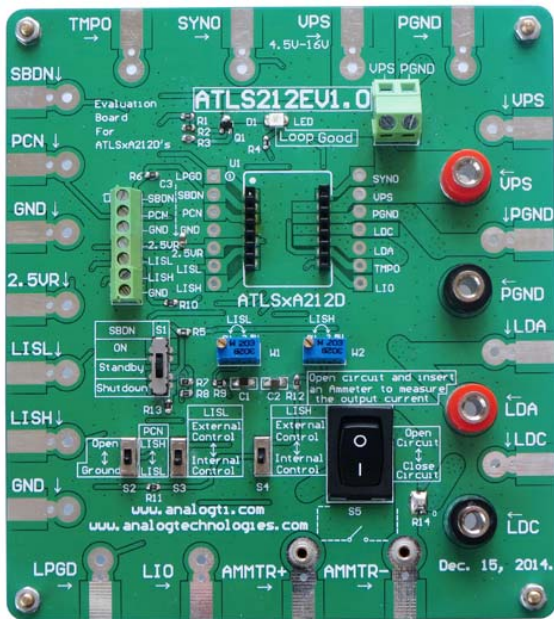
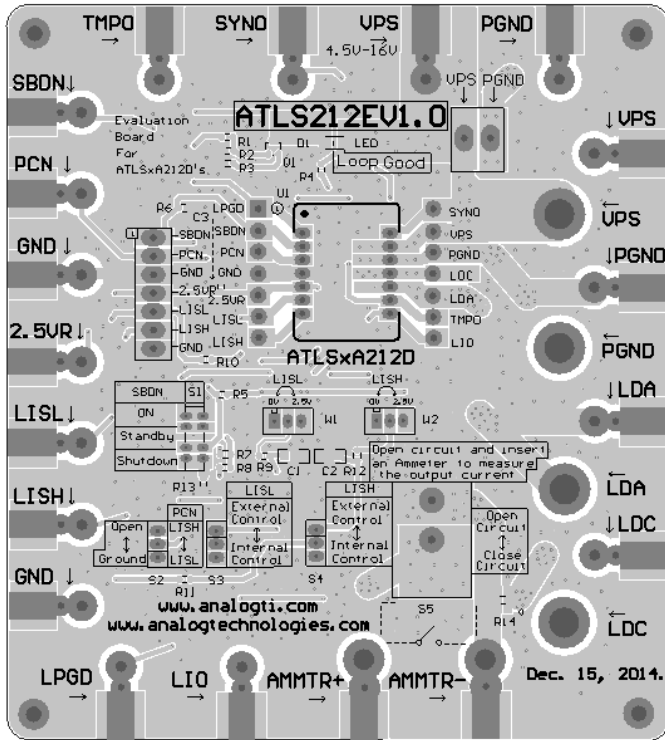
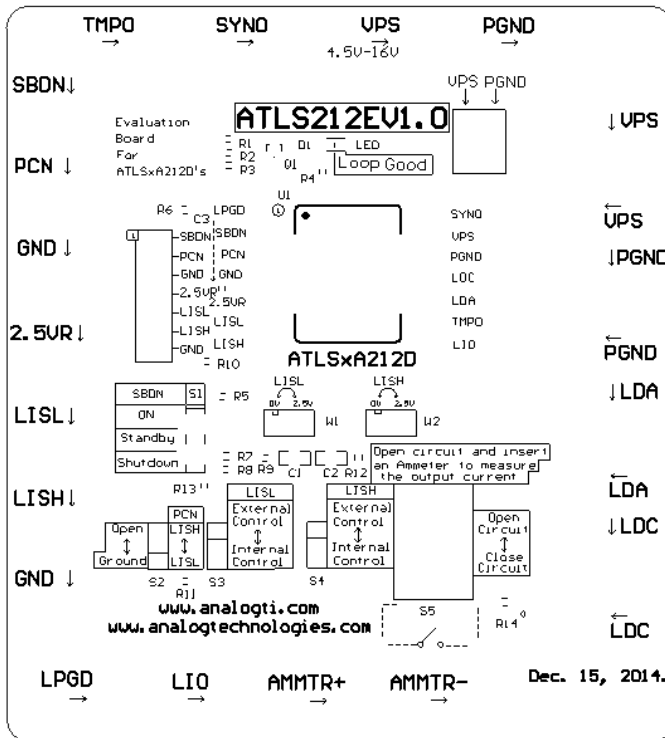

Figure 1. Physical Photo of ATLS212EV1.0
Figure 2. Top Silkscreen Layer with Other Top Layers
Figure 3. Top Silkscreen
This evaluation board is shown in Figure 1. On the 4 edges of the board, it features solder pads for all the interface ports provided by the laser driver. The solder pads can be used by clips or soldered with wires for connecting to external circuits. The power supply input is connected on the upper edge of the board. The incoming wires can be soldered on the pads, or clipped by alligator clips, or use the terminal block and tight the wires by the screws. In the upper middle of the board, there is an LED. When the controller works properly, it will be lit up. On the left side of the controller, there is a terminal block. It can be used for connecting wires going into the ports of the laser driver. On the lower side of the laser driver, there are 2 POTs (Potentiometers) for setting the lower and upper values of the set-point current.
When the laser driver uses these POTs for setting the current values, push down the 2 switches below the POTs, see Figure 1 and Figure 2; when using external signals to modulate the laser driver output current, leave the 2 switch knobs onto the upper position, as marked on the board. The lower left corner switch is for selection which of the control ports is used for setting the laser driver current: LISL or LISH. The output current can be measured by a current meter, which can be inserted between the 2 multi-meter lead sockets: AMMTR+ and AMMTR-, which is located on the lower edge of the board. When an Ammeter is inserted into the circuit, turn switch S5 onto the upper position, the open circuit the meter leads, so that the current will go through the meter, thus the current will be measured. When the Ammeter is absent, turn the switch S5 down, to short circuit the current meter terminals so that the current will go through the switch to close the circuit.
The silkscreen layer of the evaluation board is shown in Figure 2 with other top layers, including top silkscreen, top copper, top solder mask, and multilayer (vias). Figure 3 shows the image of top silkscreen layer only.
1. Hook up the power supply. There are 2 solder pads in the upper right area on the edge for connecting the power supply. The connection can be done by clipping or soldering on the pads, or locking in 2 wires through the terminal block 2TB by tightening the 2 screws, see Figure 1. The power supply can set to between 4.5V and 16V. When using a lower voltage power supply, the power consumption of the driver will get smaller, thus, the driver will be working at higher efficiency. But the voltage has to be at least 1V higher than the laser diode forward voltage value, otherwise, the output current is out of control by the laser driver.